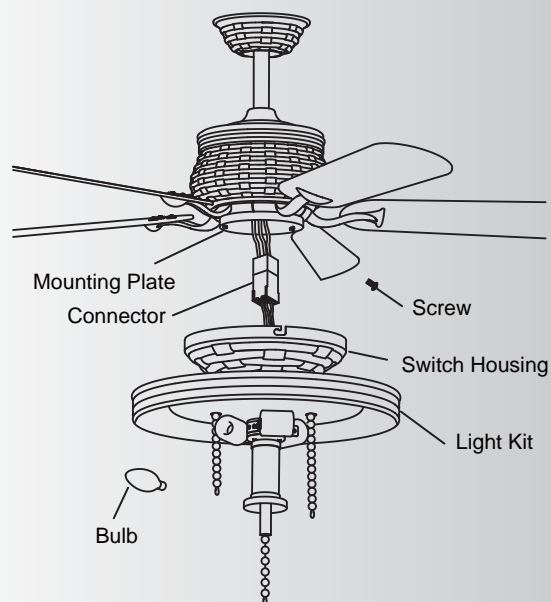

Fig. 3
Step 5. The square plastic wiring connector from the ceiling fan and the light fixture will only fit together one way. Match up the color on the side of each connector, then push them together until the snap engages. (Fig. 3)
Step 6. Tuck the connections neatly into the switch housing. Align the key hole on the switch housing with the screws on the side of the mounting plate. Turn the light fixture until it locks in place at the narrow end of the key holes. Reinstall the screw you removed and tighten the 2 other screws. Now, install 3, 40 watt candelabra base lamps (not included) in the light fixture (Fig. 3).